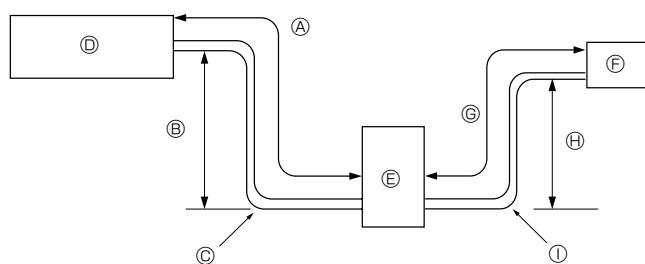

Fig. 2-1
2.1. Refrigerant pipe (Fig. 2-1)
④,⑤ Pipe length (one way)	②,⑩ Height difference	①,⑪ Number of bends (one way)